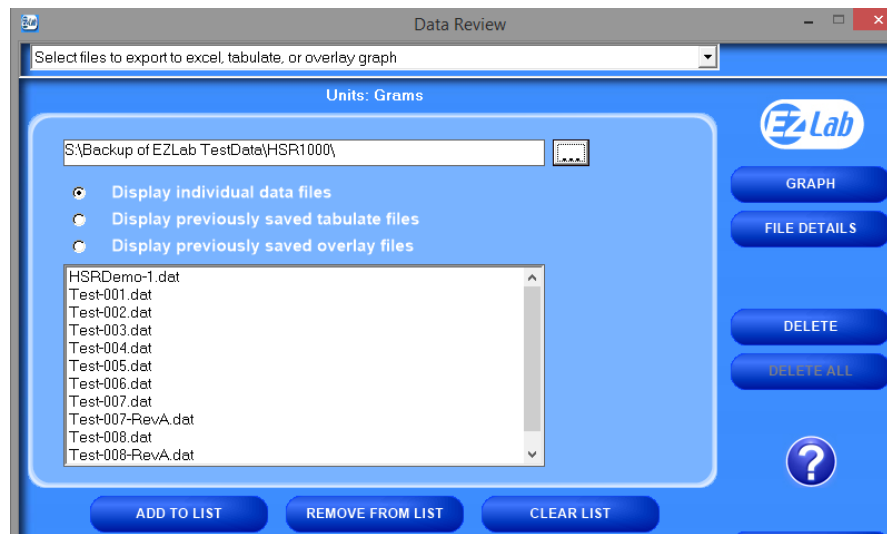

Figure 10 – Another Review Data Screen
1. Use the drop down list at the top of the screen, click on the arrow, and select “Select files to export to excel, tabulate, or overlay graph”. See Figure 10 for an example.